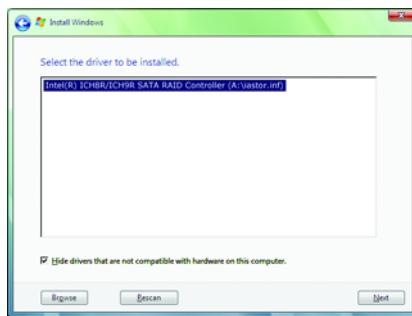

Figure 8
When a screen as shown in Figure 8 appears, select **Intel(R) ICH8R/ICH9R SATA RAID Controller** (Note) and press **Next**.
- (Note) The item displayed in Figure 8 will be shown as **Intel(R) ICH9 SATA AHCI Controller** when the SATA controllers are set to AHCI mode.